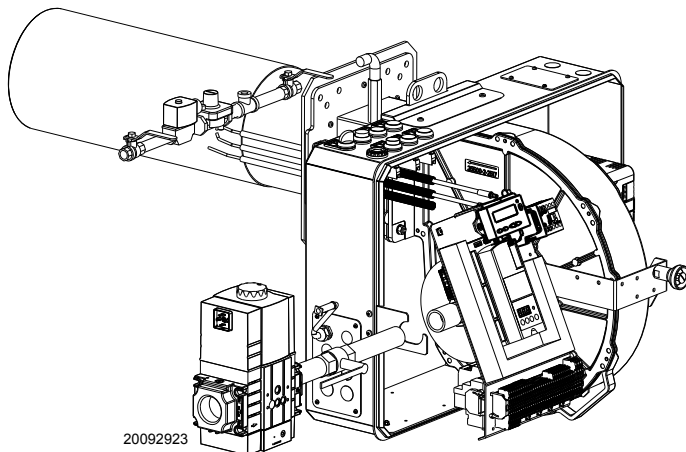

Fig. 17
- secure the gas train unit to the mixer (Fig. 17).
- Secure the pilot unit to the manifold (Fig. 17);